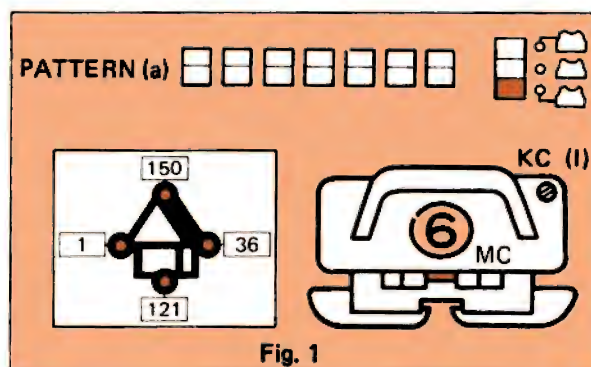

Fig. 1
1. Place the CARD in CARD INLET and program all necessary figures. (see Fig. 1)